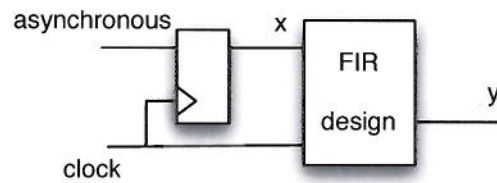

Figure 6.2 FIR system synchronizer
- c) The design is used to filter an asynchronous signal. Explain the problems that may arise by feeding to the FIR design an asynchronous input. A synchronizer with a single register is added to the original design as shown in Figure 6.2. Calculate the MTBF when the design is clocked a 40 MHz clock. The rate of asynchronous transitions per second is 40, and $\tau = 0.5ns$ and $T_0 = 9.5 \times 10^{12}sec$.